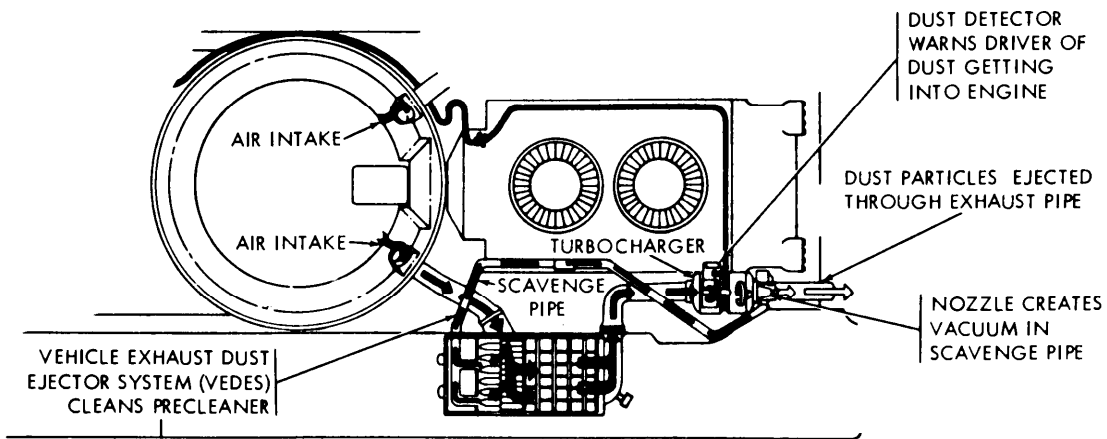

Figure 5-1. Vehicle exhaust dust ejector system (VEDES).
- c. *Vehicle Exhaust Dust Ejector System (VEDES).* The vehicle exhaust dust ejector system (VEDES) (fig. 5-1) replaces the air cleaner centrifugal fans. The air cleaner housing is modified to plug the fan exhaust elbows and to accommodate a tube manifold with its associated hoses, clamps, and mounting bracket installed in place of the fans. A system of dust scavenge tubes, check valves, and exhaust pipes with integral dust ejectors is mounted along each cylinder bank above and parallel to the engine and transmission oil coolers. VEDES scavenges dust from the precleaned section of the air cleaners through suction action of the exhaust ejectors.